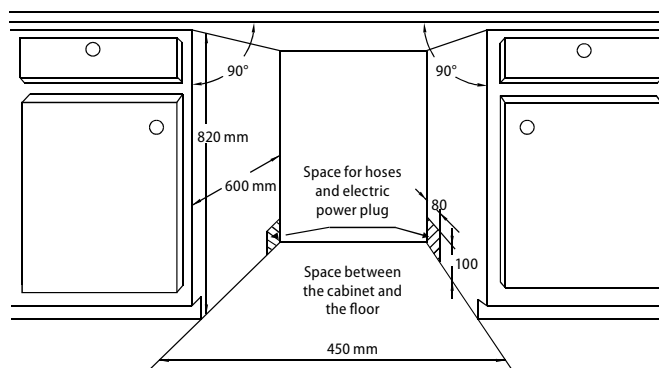

Fig.12
- Dimensions for mounting the appliance are shown in Fig. 12.